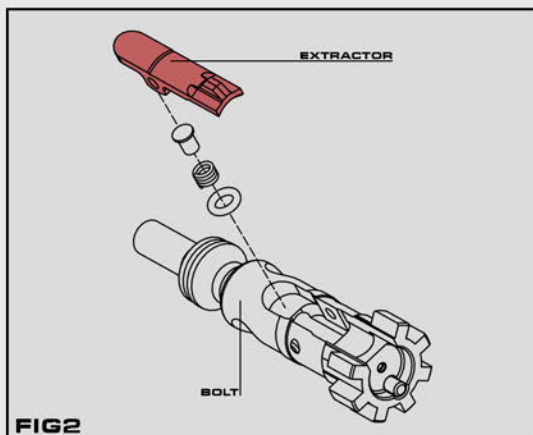

FIG2
2. REASSEMBLE THE EXTRACTOR AND BOLT. MAKE SURE THAT THE EXTRACTOR SPRING ASSEMBLY IS ASSEMBLED CORRECTLY. THE SPRING CAN BE SEATED INTO THE EXTRACTOR BY PUSHING DOWN ON IT WITH A PUNCH OR BULLET TIP, FIG2. IT IS WIDER AT ITS BASE. AFTER THE SPRING AND INSERT ARE IN PLACE, MOUNT THE 'O' RING OVER THE SPRING.